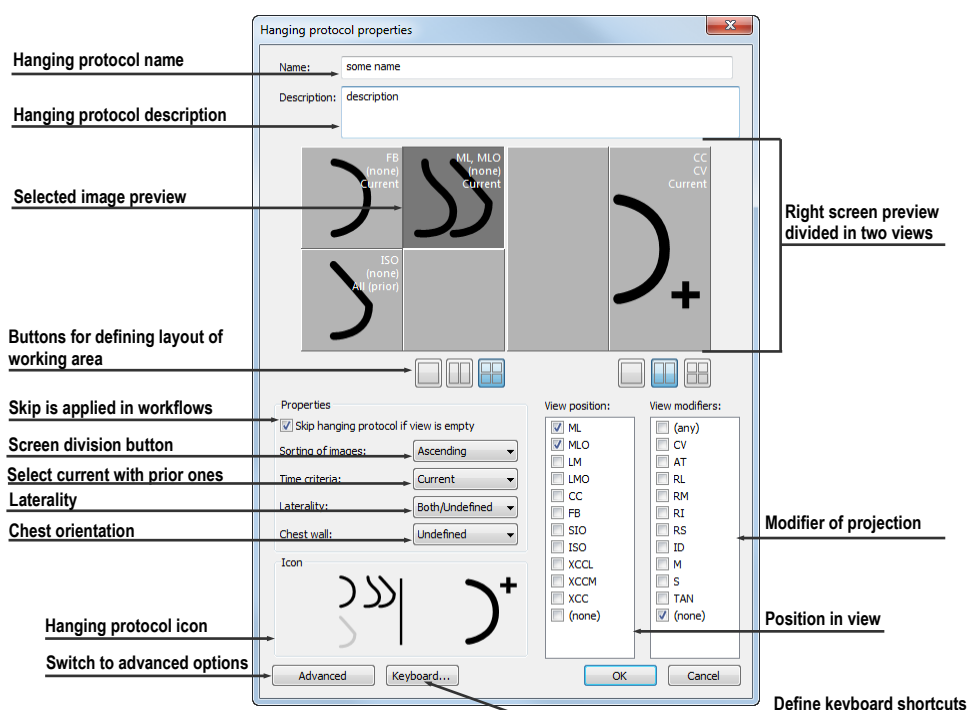

Figure 366 – Hanging protocol properties dialog for mammography
- Select the hanging protocol in the list of all protocols on the **Mammography workflow** tab of the **TomoCon options** dialog and push the **Edit** button (see Figure 366),